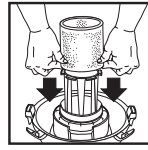

FIGURE 26
40. With tank cover in an upside down position, slide foam sleeve down over lid cage pulling until foam sleeve completely covers lid cage. **FIGURE 26.**